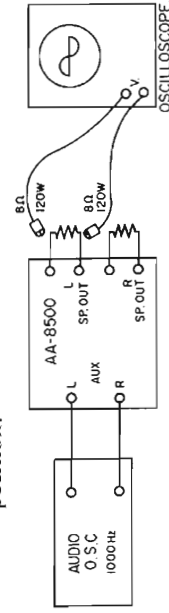

Fig. 1
- b) Connect an 8 Ω 120 W resistor to the left and right channel speaker terminals, and connect the oscilloscope across this resistor (see Fig. 1).
- a) Connect instruments as shown in Fig. 1 and use a VTVM in place of the oscilloscope.